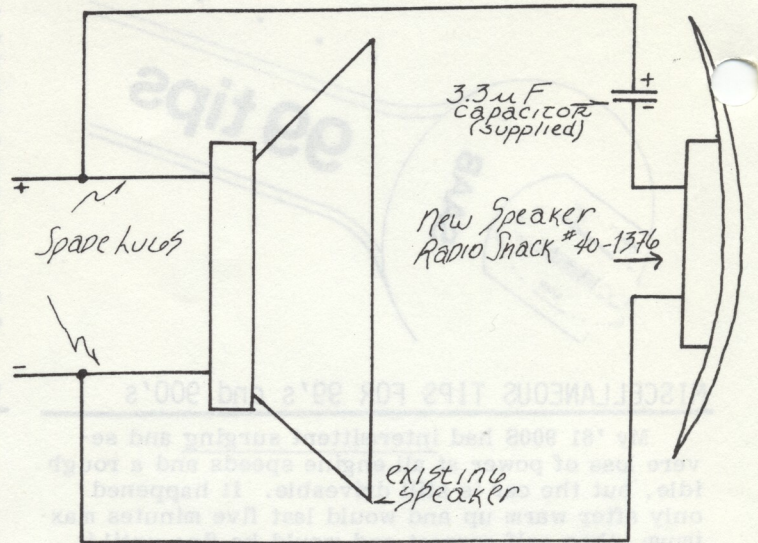

Fig. 1-- 8 ohm wiring diagram
**Wiring**--Your next problem is to wire the system. If your existing speakers are eight ohm, it should be marked on the back, all that must be done is to wire the new speaker in parallel with the existing speaker (see Fig. 1) and you're finished. In the event your speaker is not marked, its impedance may be tested using a volt-ohm meter by measuring the resistance between the terminals. If it is six ohms or above it can be treated as an eight ohm speaker. If it is under six, you will need a matching coil.